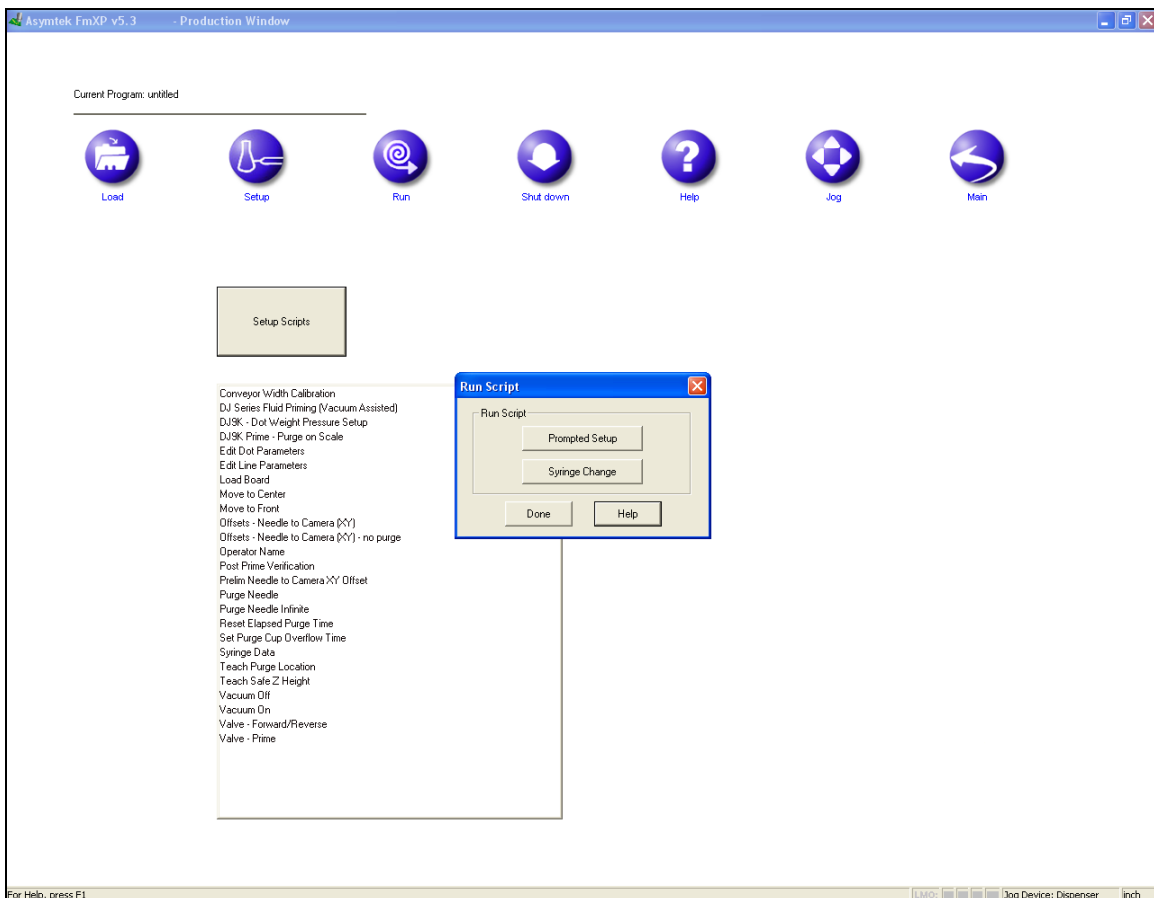

Figure 2-5 Fluidmove Production Window – Run Script
- ▶ The Run Script Window opens (Figure 2-5).